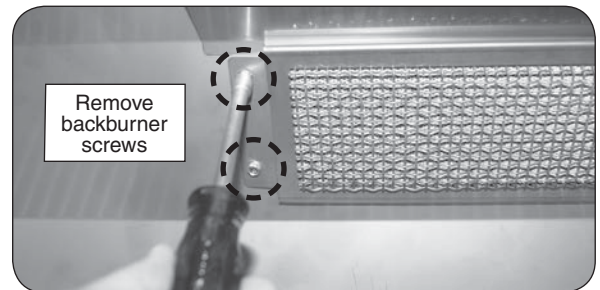

Fig. 30-3 Remove backburner mounting screws
2. Remove the backburner mounting screws (1/4" hex) located at the left end of the backburner assembly (see Fig. 30-3).